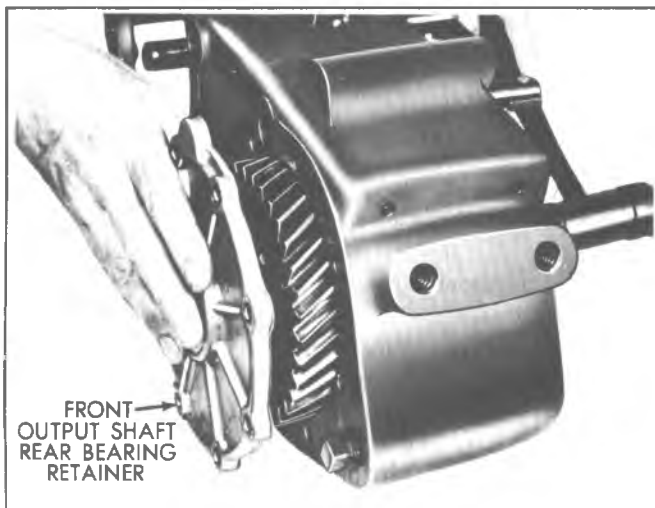

Fig. 7E-3R—Removing Front Output Shaft Rear Bearing Retainer
5. Remove shift rails (Fig. 7E-7R), upper (range) rail first, then lower (4-wheel) rail.